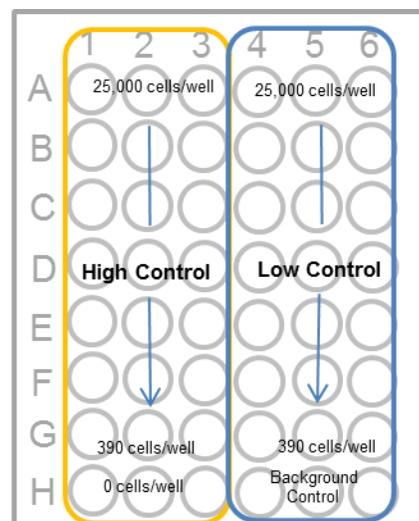

Fig.2 Plate arrangement
3. Prepare 2-fold serial dilution of each well in triplicate set of wells for the high-control, low-control and background control (medium only) (Refer to Fig.2 for the plate arrangement).
3. Prepare 2-fold serial dilution of each well in triplicate set of wells for the high-control, low-control and background control (medium only) (Refer to Fig. 2 for the plate arrangement).